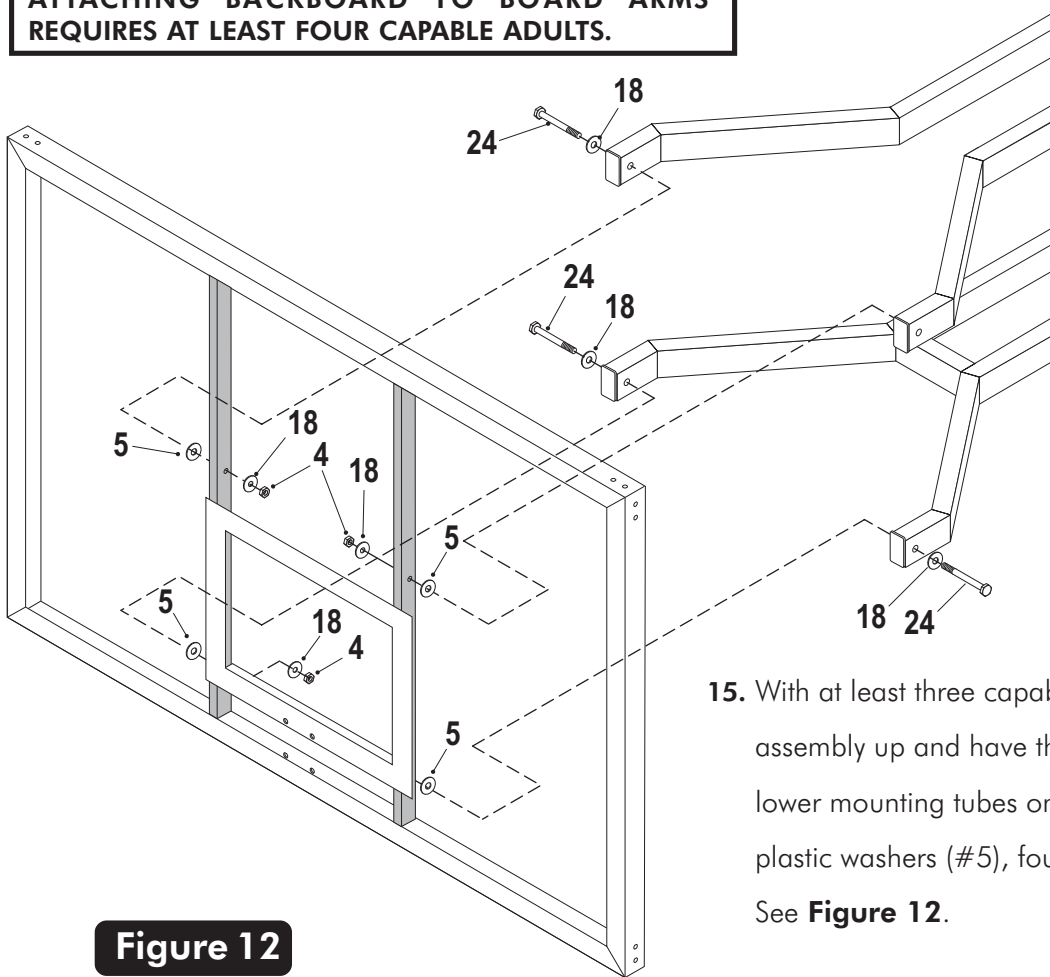

Figure 12
15. With at least three capable people, raise the backboard assembly up and have the fourth attach Lower Board Arms to lower mounting tubes on backboard using two bolts (#24), two plastic washers (#5), four washers (#18) and two lock nuts (#4). See **Figure 12**.
16. Attach Upper Board Arms to upper mounting tubes on backboard using two bolts (#24), two plastic washers (#5), four washers (#18) and two lock nuts (#4). See **Figure 12**.